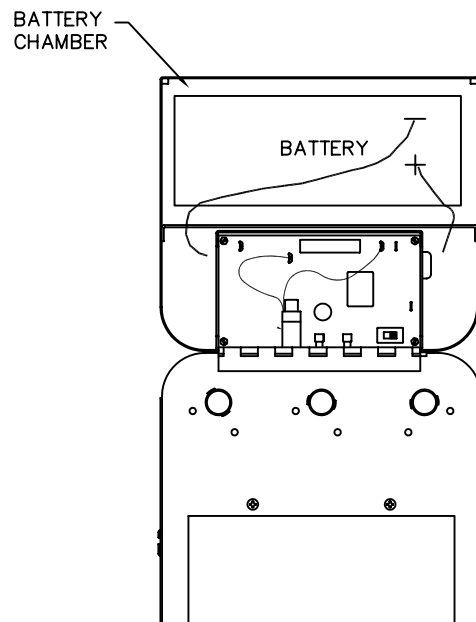

FIGURE 4
- Install battery (1000010226) in battery chamber. See figure 4.